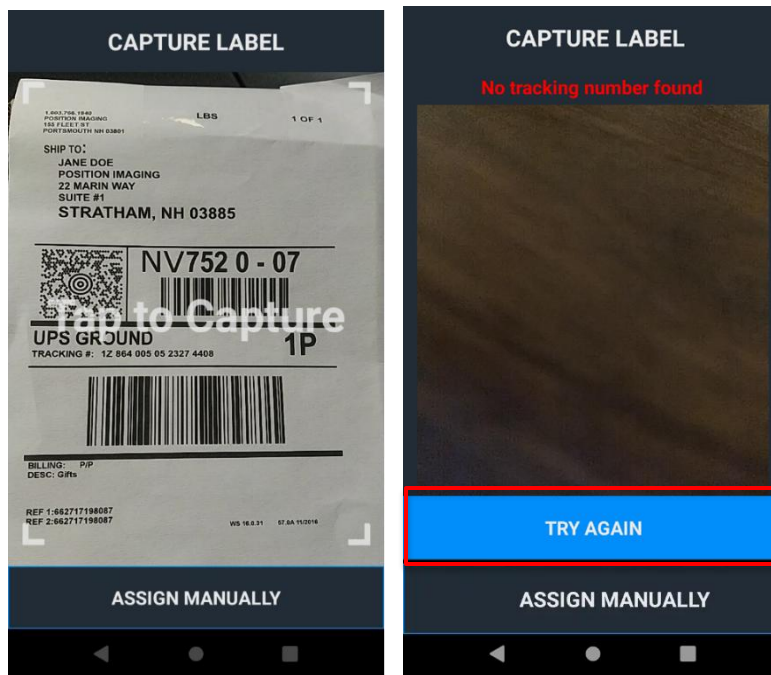

Figure 13: Captured label (left) and an issue with a captured label (right)
3. Position the screen over the **entire label** ensuring the label is facing upright and is readable, then **Tap to Capture**. See Figure 13.
The barcode and address are captured, and the system displays a brief image of the captured label, see Figure 13.